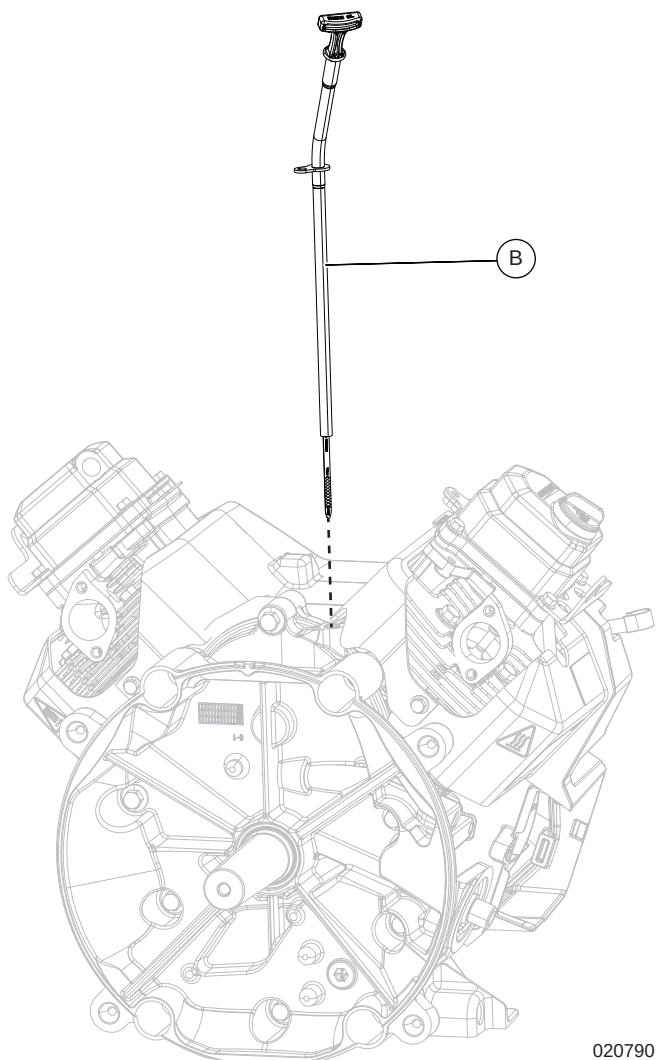

Figure 6-25. Remove Oil Dipstick
2. See Figure 6-25. Remove oil dipstick (B) from engine.